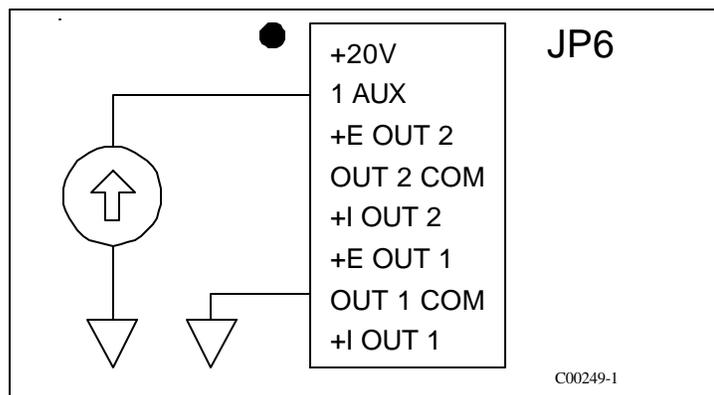

Figure 22 - Auxiliary Input Wiring Diagram
The auxiliary input is accessed at terminal JP6 located on the lower circuit board. Figure 22 illustrates the auxiliary input connected to a current source. If OUT 1 COM is not easily accessible then use JP6 OUT 2 COM, JP7 GND, JP1 DC GND OR JP3 GND. They are electrically the same signal ground point. The range of this source is most likely 4-20mA.
1. Apply a current to the auxiliary input as shown in Figure 22.